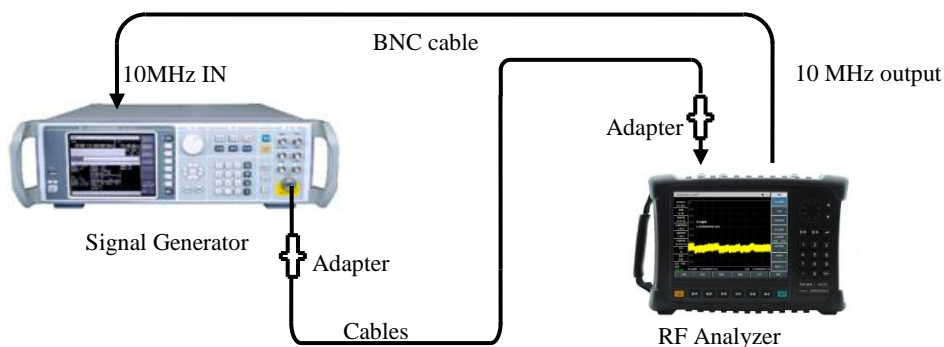

Figure 16-10 Settings for Resolution Bandwidth Accuracy Test
- a) Connect the test equipment as shown in Figure 16-10. The instrument is used to provide reference frequencies for the signal generator.